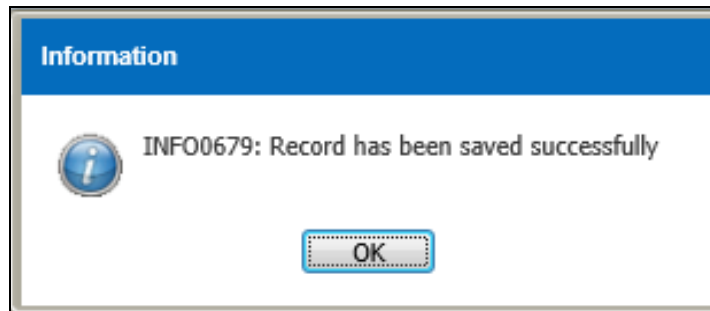

Figure 3.14.2-5 Information Message
- Click on the  button to create new record for PTJ Code and fill the record as shown on Figure 3.14.2-2